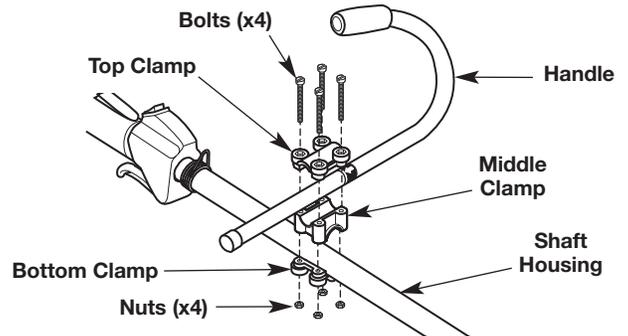

Fig. 2
1. Place the handle between the top clamp and middle clamp (Fig. 2). If necessary, rotate or flip the middle clamp until the holes in the top clamp and middle clamp align.
2. Place the clamps and handle over the shaft housing and onto the bottom clamp (Fig. 2).
NOTE: Make sure the curved portion of the handle is on the operator's left (Fig. 2).
3. While holding the pieces together, insert the bolts (x4) into the aligned holes (Fig. 2).
4. Screw a nut onto the end of a bolt, but only slightly. Push the nut into the hexagonal recess on the bottom clamp. Hold the nut in place with a finger to keep it in the recess. Tighten the bolt with a Phillips screwdriver, but do not tighten it completely (Fig. 2). Repeat this step for each nut and bolt.
1. Loosen the bolts (x4) slightly with a Phillips screwdriver (Fig. 2).